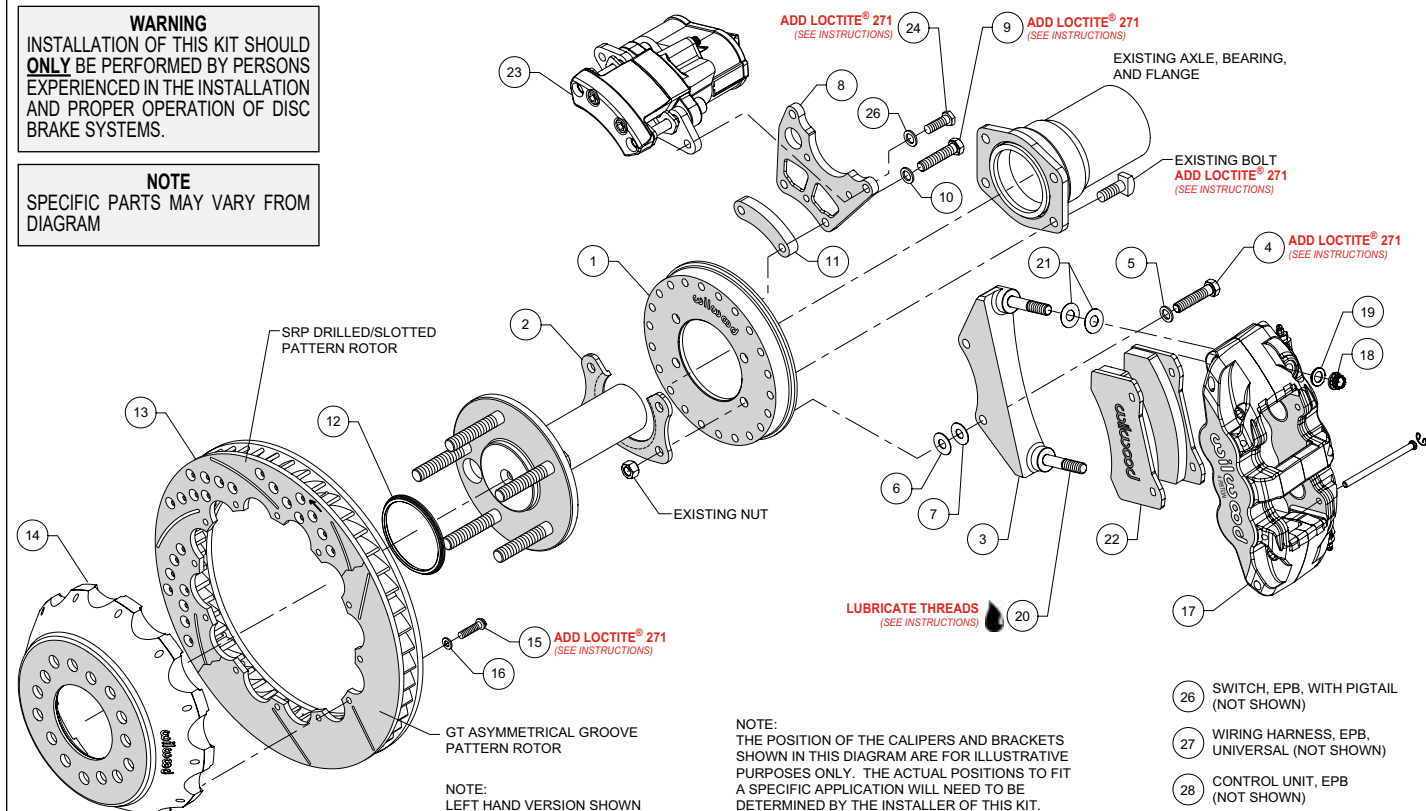
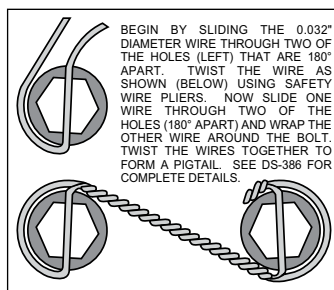

Figure 1. Typical Installation Configuration
Figure 5. Safety Wire Diagram
NOTE: Numbers in parenthesis refer to the parts list, and Figure 1 on the preceding pages.
- Orient the backing plate (1) as shown in Figure 1 and Photo 1, and slide it onto the axle housing flange. Ensure the
- Install the bearing retainer (2) with the opening pointing upward and the lip facing inward (toward the bearing), as shown in Figures 1 and 4, and Photo 2. Secure retainer and backing plate to the axle housing flange using the Original Equipment Manufacturer (OEM) bolts and nuts, Figure 1 and Photo 3. Apply red *Loctite*® 271 to the OEM bolt threads and torque to OEM specifications.
- Start by determining the best location for the service caliper (17). This caliper is usually mounted in the 3:00 or 9:00 o'clock position, but may be rotated up or down approximately 45 degrees and still allow for proper bleeding, Photo 4. Orient the service caliper bracket (3) as shown in Figure 1 and Photo 5, and install to the backing plate (1) in the desired location using bolts (4) and washers (5). Temporarily tighten bolts. Next, mount the service caliper onto the bracket. Lubricate the caliper mounting studs (20) with lightweight oil. Mount the service caliper using lock nuts (18) and washers (19), Figure 1. Temporarily tighten the lock nuts. Check that the caliper (including inlet fitting and hose) has sufficient clearance to all surrounding components through the full suspension travel. Relocate the caliper/bracket on the backing plate as needed to ensure proper clearance is achieved.
- Determine the best location for the EPB caliper (23). **NOTE:** *The EPB caliper motor extends farther inboard than the service caliper and therefore needs additional consideration when determining a mounting location with sufficient clearance.* In the example application shown in Photo 6, the EPB caliper has sufficient inboard clearance to the leaf spring. However, if the EPB caliper were mounted closer to the 12:00 o'clock position, the inner body of the vehicle would hit the caliper during full compression of the suspension.
•Orient the EPB caliper bracket (8) as shown in Figure 1 and Photo 7, and install to the backing plate (1) in the desired location using bolts (9), washers (10), and spacer (11). Temporarily tighten bolts.
•Orient the rotor (13) and the hat (14) as shown in Figure 1 and Photo 8. Attach rotor to hat using bolts (15) and washers (16). Apply red Loctite® 271 to the bolt threads and torque to 155 in-lb using a criss-cross pattern. For an added measure of security, the bolts may be safety wired using standard 0.032 inch diameter stainless steel safety wire as shown in Figure 5. Please refer to Wilwood's data sheet DS-386 (available at www.wilwood.com/Pdf/DataSheets/ds386.pdf) for complete safety wire installation instructions.
•Initially place two .030" thick shims (21) on each stud of the service caliper bracket (3), as shown in Figure 1 and Photo 10. Mount the caliper onto the bracket using lock nuts (18) and washers (19), Figure 1. Temporarily tighten the lock nuts and view the rotor through the top opening of the caliper. The rotor should be centered in the caliper, Photo 11. If not, adjust by adding or subtracting shims (6 and/or 7)) between the service caliper bracket (3) and the backing plate (1). Always use the same amount of shims on each of the two mounting bolts. Once the caliper alignment is correct, remove the bracket mounting bolts (4) one at a time, apply red Loctite® 271 to the threads, and torque bolts to 35 ft-lb.
- Remove the service caliper (17), then remove the two pad retaining pins from the caliper by carefully popping out the pin retaining clips and sliding out the pins. Insert the brake pads (22) into the caliper from the bottom, Figure 1 and Photo 12. With the friction material facing the rotor, secure the brake pads in place with the pad retaining pins and clips, Photo 13. Reinstall the caliper onto the mounting bracket and temporarily tighten the lock nuts. Check that the top of the brake pad is flush with the outside diameter of the rotor, Photo 14. If not, adjust by adding or subtracting shims (21) between the caliper and the bracket. After the caliper pad height is set, torque the caliper lock nuts (18) to 47 ft-lb.
- Mount the EPB caliper (23) onto the caliper mounting bracket (8) using bolts (24) and washers (25), Figure 1. Apply red *Loctite*® 271 to bolt threads, and torque to 30 ft-lb.
•**NOTE:** The service caliper (17) in this brake kit utilizes a 1/8-27 NPT pipe thread inlet. OEM rubber brake hoses generally cannot be adapted to Wilwood calipers. The preferred method is to use steel adapter fittings at the caliper, either straight, 45 or 90 degree (use PTFE tape on pipe threads of adapter fitting for proper sealing to caliper) and enough steel braided line to allow for full suspension travel. **Carefully route hoses to prevent contact with moving suspension, brake or wheel components.** **NOTE:** Wilwood hose kits are designed for use in many different vehicle applications and it is the installer's responsibility to properly route and ensure adequate clearance and retention for brake hose components. Wilwood offers universal brake flex line hose kits, domestic (3/8-24 IF) chassis fittings, order: